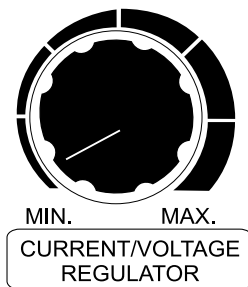

Figure 37. Current/Voltage Regulator Control Knob (Current Adjust)
- Next, set the current/voltage regulator control knob (Figure 37) in accordance with the selected electrode size as referenced in Table 18.